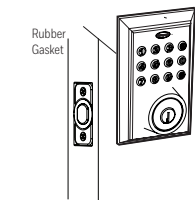

Figure 8a
- Check that the Rubber Gasket is properly seated on the Exterior Assembly (Figure 8a).
- Check that the Rubber Gasket is properly aligned and correct as necessary (Figure 8a).